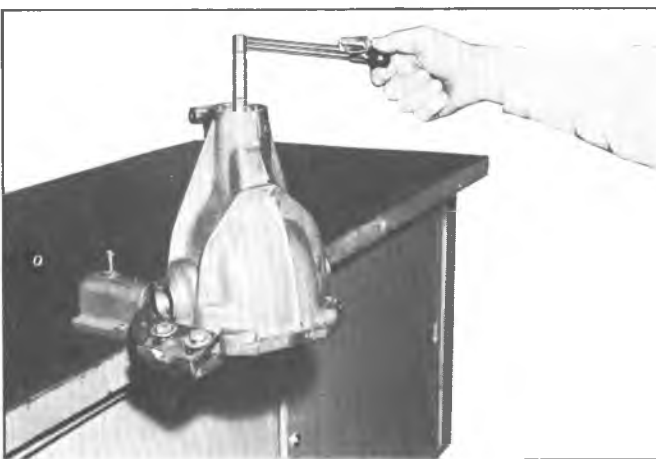

Fig. 21C—Measuring Rotating Torque
4. Hold the preload stud stationary with a wrench on the flats and tighten hex nut until 20 in. lbs. of torque are required to rotate the bearings, as shown in figure 21C.